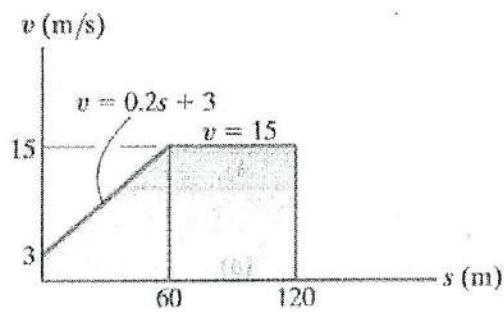

Figure Q5(b) / Rajah S5(b)
- c) Determine the speed of block A as shown in **Figure Q5(c)** if block B has an upward speed of 2 m/s.